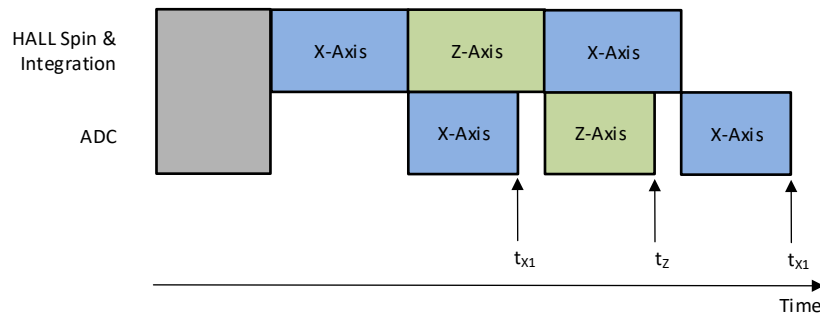

Figure 8-3. XZX Magnetic Field Conversion
In absolute angle measurement, application sensor data from multiple axes are required to calculate an accurate angle. The magnetic field data collected at different times through the same signal chain introduces error in angle calculation. The TMAG5170 offers pseudo-simultaneous sampling data collection modes to eliminate this error. Figure 8-3 shows an example where MAG\_CH\_EN is set at 1101b to collect XZX data. Equation 14 shows that the time stamps for the X and Z sensor data are the same.
- $t_{x1}$ ,  $t_z$ ,  $t_{x2}$  are time stamps for X, Z, X sensor data completion as defined in Figure 8-3.